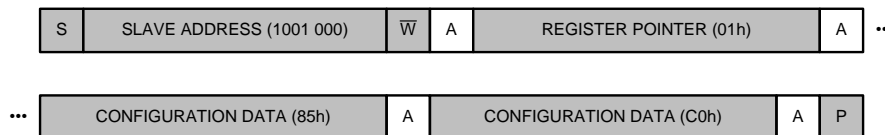
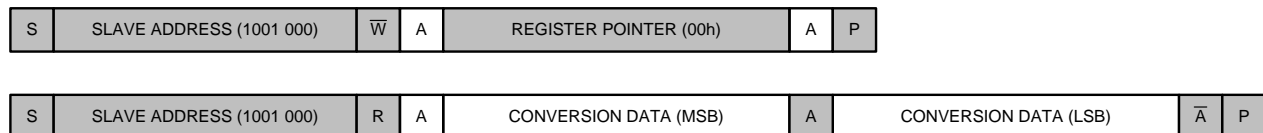

Figure 21. Write the Configuration Register
Figure 23. Read the Conversion Data Register
- Write the configuration register as shown in Figure 21 to configure the device (for example, write MUX[2:0] = 000, PGA[2:0] = 010, MODE = 1, and DR[2:0] = 110) and start a single-shot conversion (OS = 1):
- Then, as shown in Figure 23, read the conversion data register:
To save time, a new conversion can also be started (step 4) before reading the conversion result (step 3). Figure 24 lists a legend for Figure 21 to Figure 23.